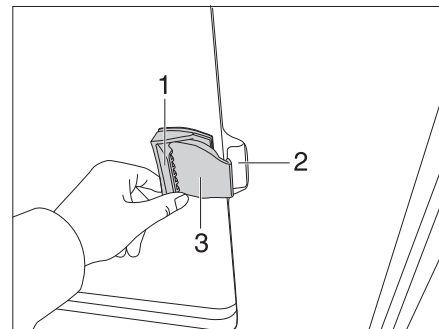

Fig. 65 Sliding window without lock
- Pull the handle flap (Fig. 65,1) and push or pull the handle forwards at the same time.